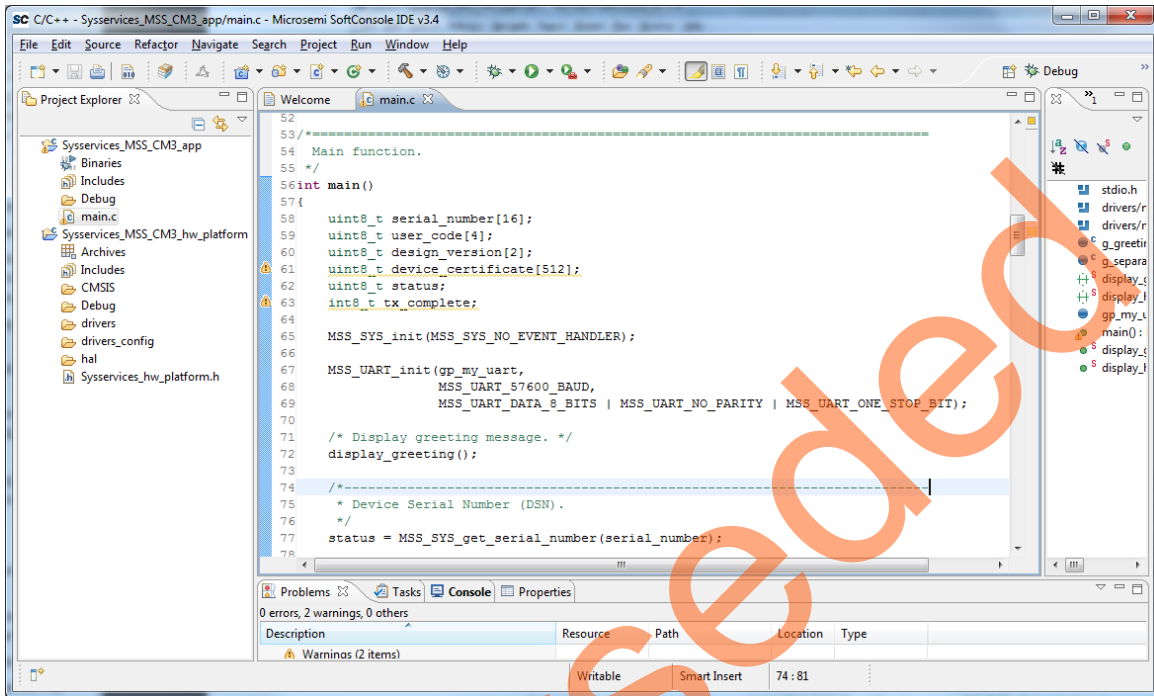

Figure 30 • SoftConsole Workspace - main.c File
- Copy the `main.c` file and replace it with the existing `main.c` file under **Sysservices_MSS_CM3_app** project in the SoftConsole workspace. The SoftConsole window looks as shown in Figure 30.